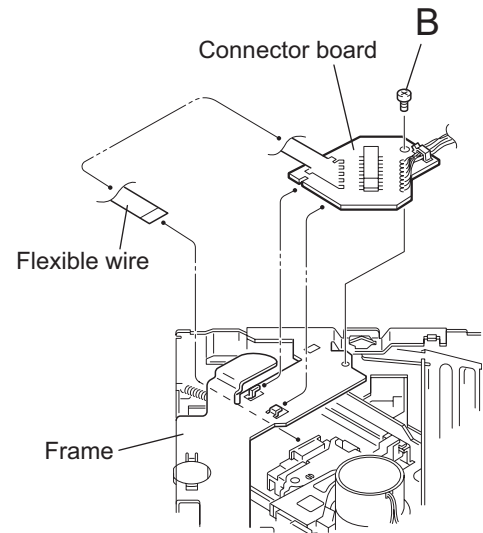

Fig.5
- (3) Lift the top chassis assembly in the direction of the arrow, disconnect the connector CN501 on the mechanism control board from the connector CN702 on the main board. (See Figs.5 and 6.)
- (4) Take out the top chassis assembly from the bottom chassis assembly.